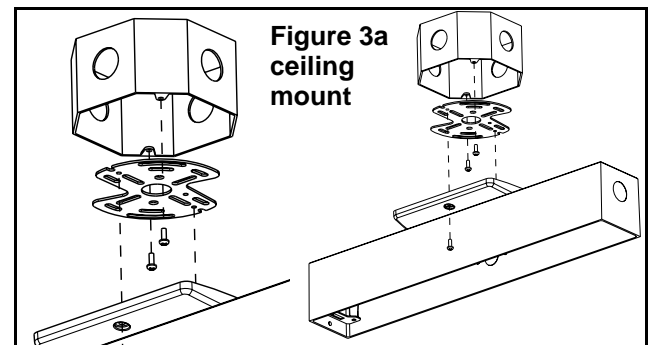

Figure 3a
Surface mount installation (Figures 3a,b,c)
1. Route the wires through the side opening of the spider plate. Mount the spider plate to the electrical box using the junction box screws (check figures 3a,b or c for spider plate orientation).